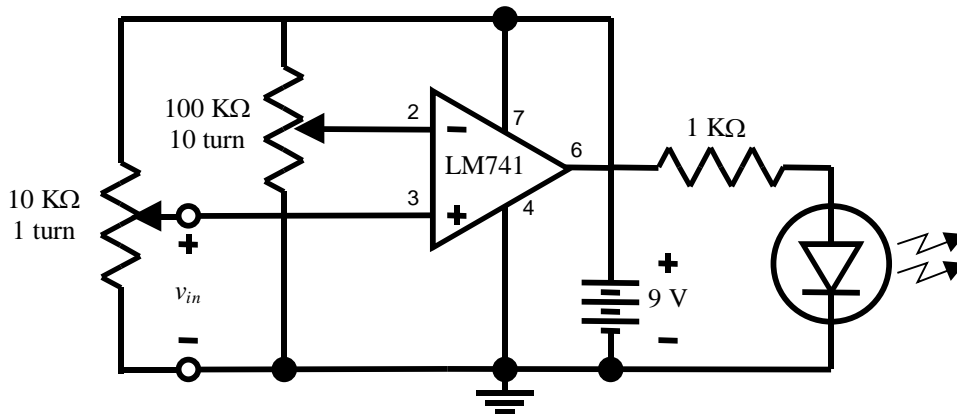

Figure P3-1 Comparator Circuit.
The part of the car alarm will be played by a comparator circuit (Figure P3-1). A comparator compares two voltages (hence the name). If the first voltage is higher than the second, the comparator output saturates high, near $+V_{cc}$. If the second voltage is higher than the first, the comparator output saturates low, near $-V_{cc}$. Thus the comparator converts an analog voltage (one that can take on an infinite number of values) into a digital one (high or low, 1 or 0, on or off). A comparator is a simple form of analog-to-digital converter (ADC).
3.a. (5 points) Construct the circuit of figure P3-1. Adjust the 100 K Ω pot to vary V_- . Adjust the 10 K Ω pot to vary v_{in} . Complete Table P3-1.